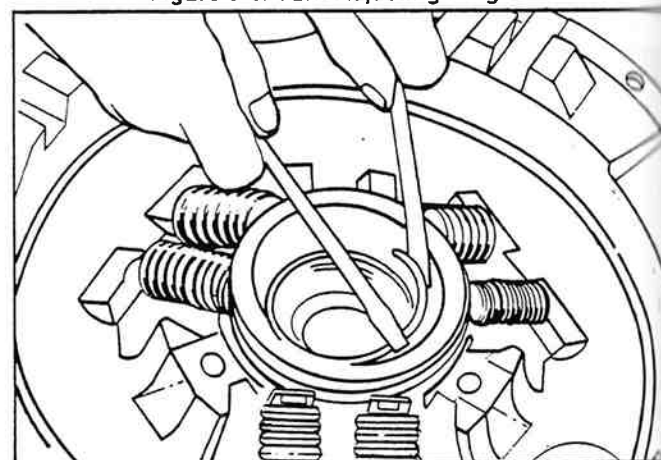

Figure 5-7. Remove Retaining Ring.
8. Remove retaining ring from release sleeve retainer (figure 5-7).